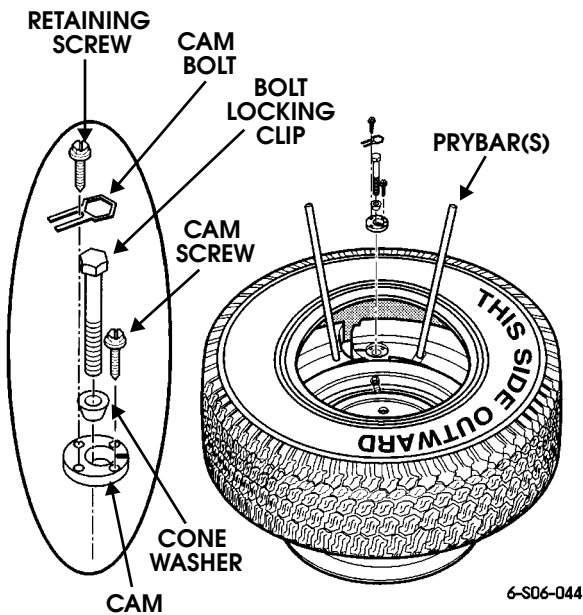

Figure 6-26: Runflat Removal
11. Pull tire bead up away from wheel to expose runflat assembly. Tire bead may be held in position by inserting two tapered pry bars or similar tool into the runflat holes and pulling tire bead away from wheel (Figure 6-26).